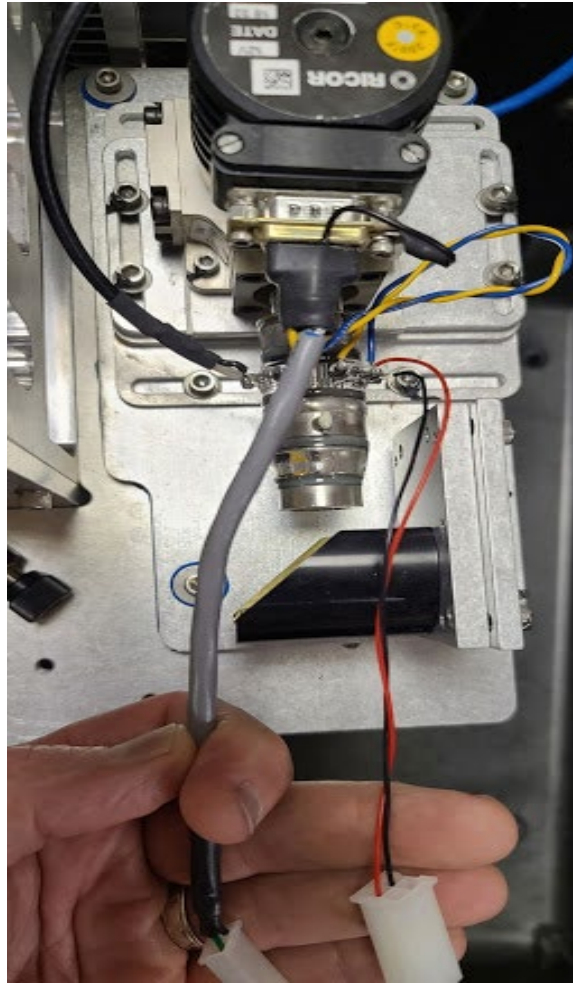

Figure 5. Detector assembly showing RICOR cryocooler, glass detector, DB9 connector, two white Molex connectors, and mirror.
- b. Unplug the power connector (two-pin Molex with gray cable) from the cryocooler engine (Figure 5).